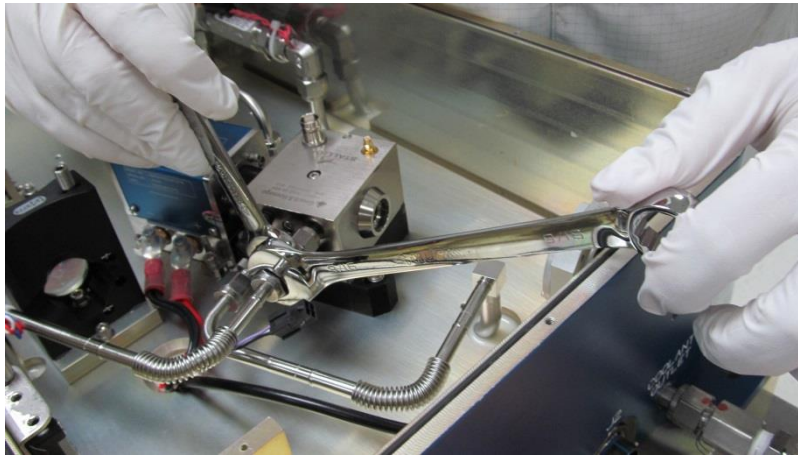

Figure 2-16: Loosening Hard Plumbing
2. Carefully remove the hard plumbing using two (2) 9/16" (14mm) wrenches. See **Figure 2-16**.